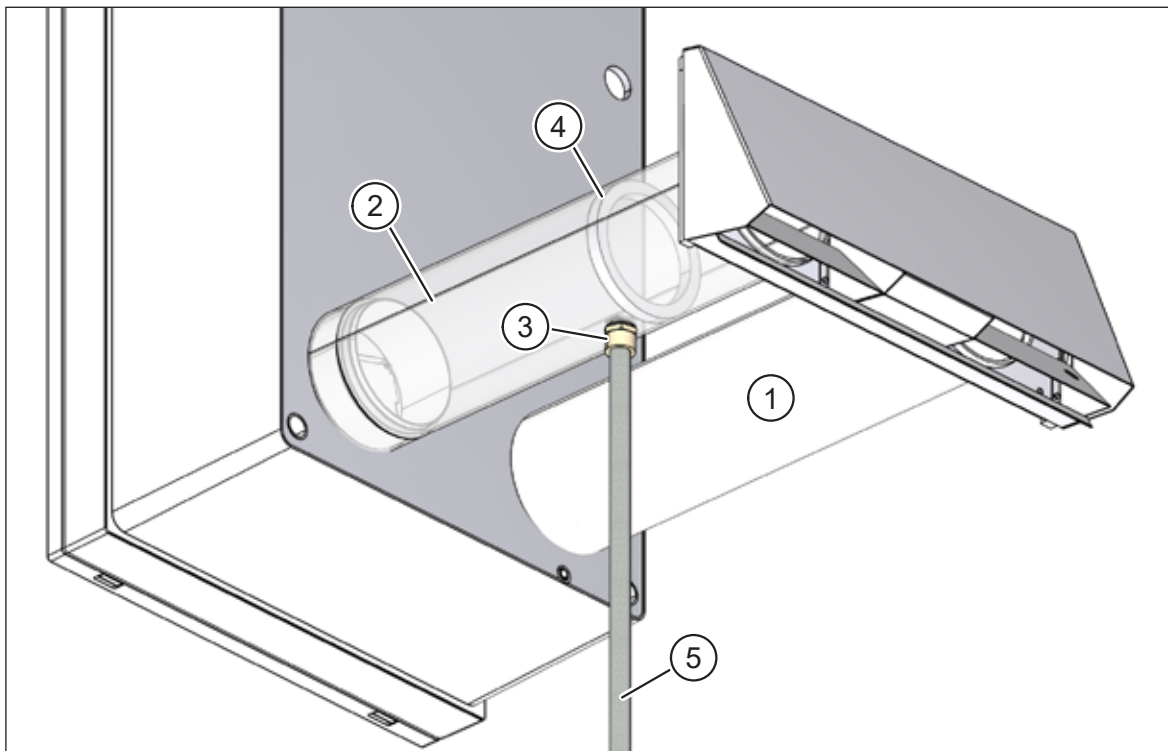

Fig. 32: Condensate drain on the exhaust air pipe
- Outdoor air pipe, DN 100, 0.5 m (item 1 in Fig. 32)
- Exhaust air pipe, DN 100, 0.5 m (item 2 in Fig. 32), with 1/2" male thread connection (item 3 in Fig. 32) and barrier (item 4 in Fig. 32) for retaining the condensate
- In cold regions, protect the condensate drain pipe (item 5 in Fig. 32) against frost, e.g. by running it behind the facade insulation.